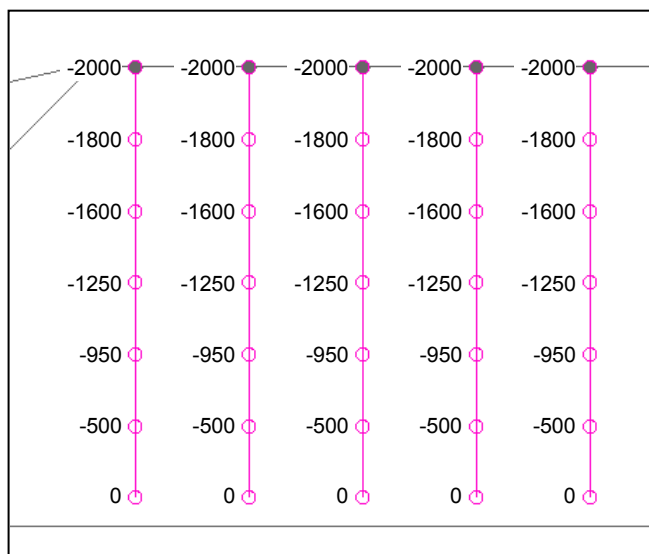

Figure 7. Longitudinal forces assigned to the reinforcement lines.
6. Repeat the above steps to assign the *Long. Force* values shown in Figure 7 below.